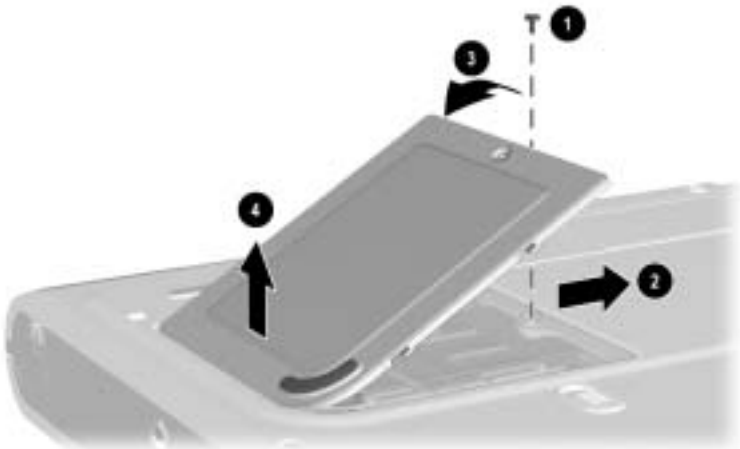

Figure 5-10. Removing the Memory Expansion Compartment Cover
3. Remove the PM2.5 × 4.0 screw ❶ that secures the memory expansion compartment cover to the base enclosure (Figure 5-10).
4. Slide the cover to the right ❷.
5. Lift the right edge of the cover and swing it to the left ❸.
6. Remove the cover ❹.